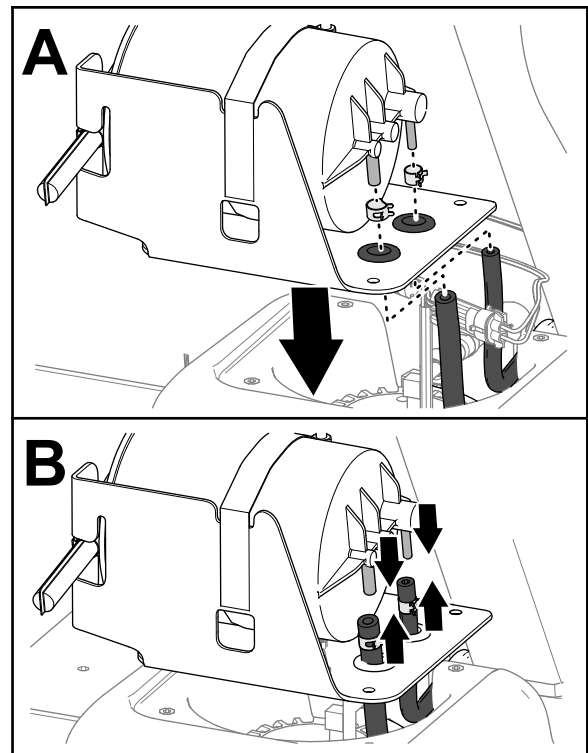

Figure 122
1. Align the fuel tank hoses through the grommets of the carbon-canister bracket (Figure 122).
2. Assemble the hose clamps over the hoses (Figure 122).
3. Assemble the hoses onto the fittings of the carbon canister (Figure 122).